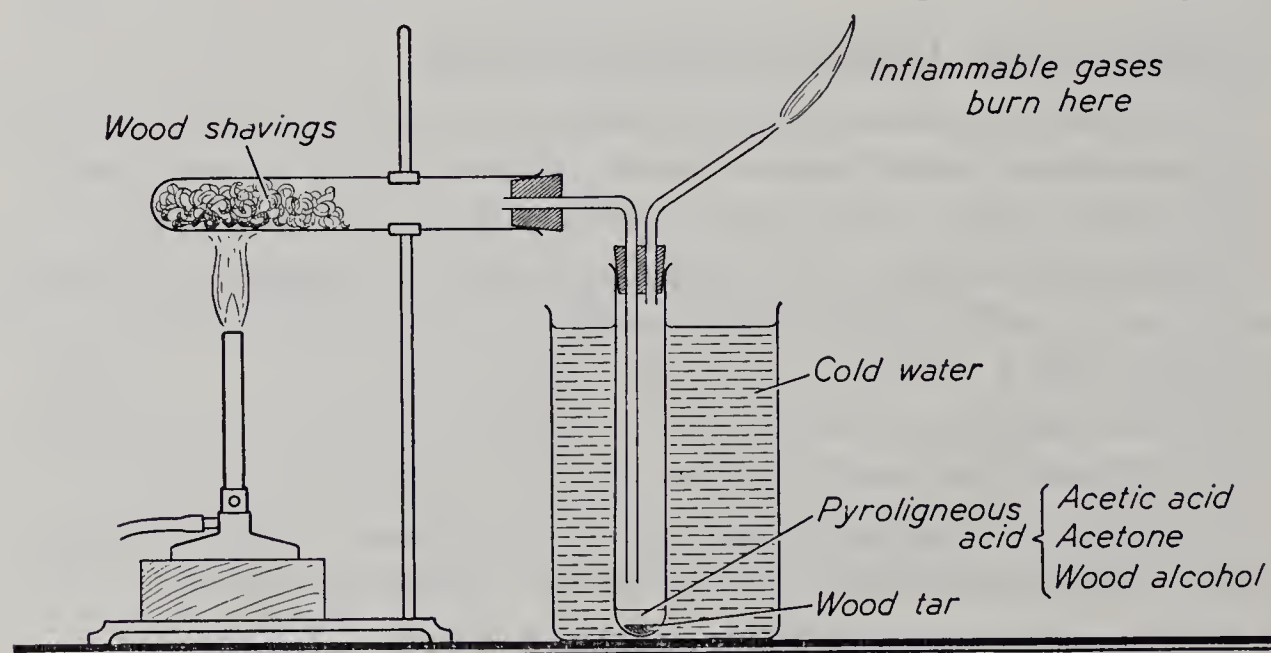

Fig. 50. The destructive distillation of wood.
1. Arrange the apparatus as in Fig. 50 and insert either wood shavings or splints in the horizontal test-tube. Heat the test-tube with a moderate flame and observe all the changes that take place